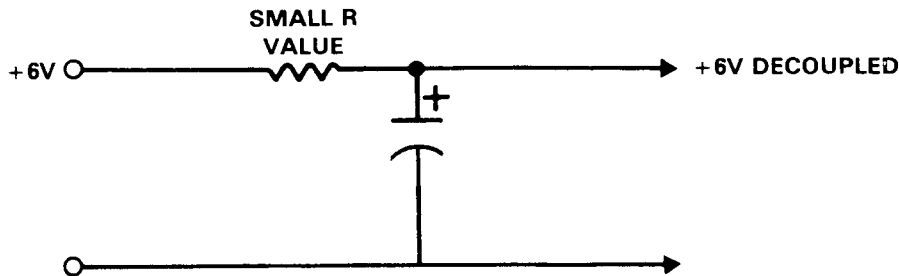

Figure 2-1. Decoupling
8. Decoupling-The power bus (+6V) can be decoupled by cutting the bus with a sharp knife at the point desired. Place a low value resistor (under 1k) in series with the +6V supply and add a capacitor (less than $1\mu\text{F}$) as shown in Figure 2-1. For noisier applications a low inductance (approximately $100\mu\text{H}$) coil could be substituted for the resistor.